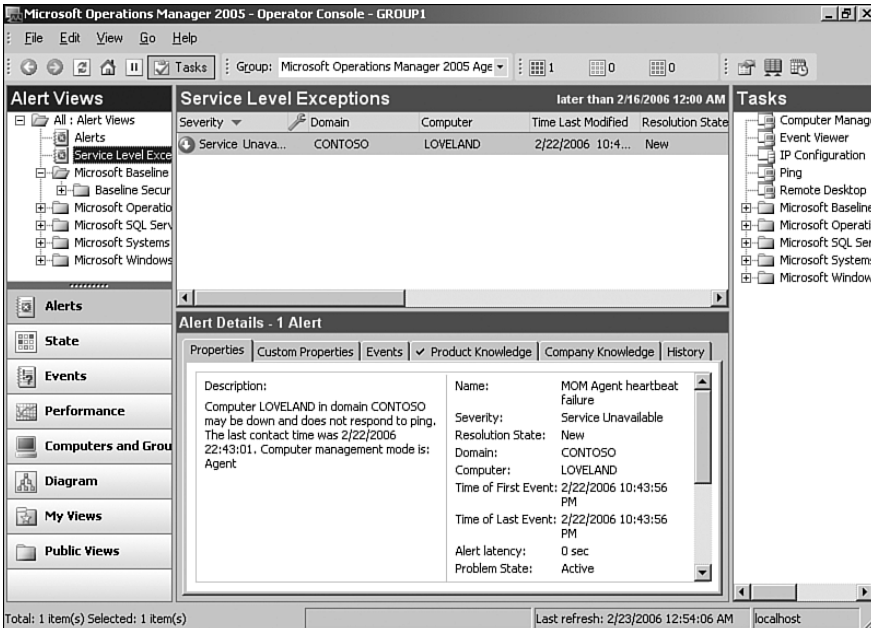

FIGURE 14.32 A new alert in the Operator console.
1. The alert is generated. There are a number of ways that this may occur, which include being created by an event rule or a performance data rule, being generated by a script, or being forwarded from a lower-tier management group. Figure 14.32 shows an alert with an initial resolution state of New, and the problem state as Active (default conditions for this alert).